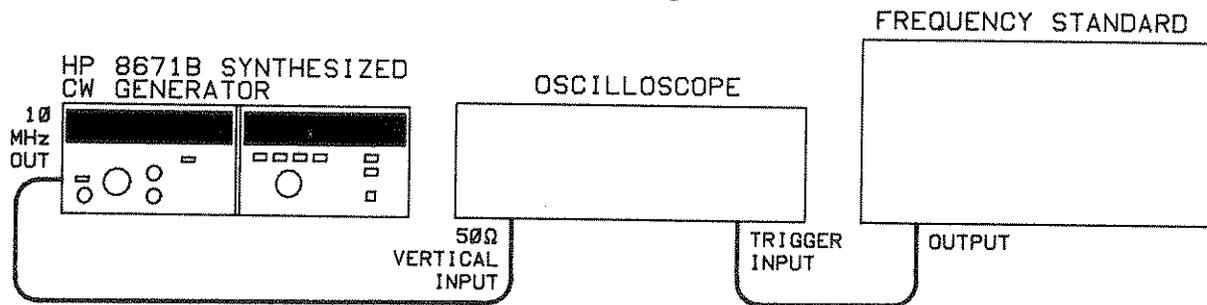

Figure 4-13. Internal Time Base Aging Rate Test Setup
2. Connect the equipment as shown in Figure 4-13.